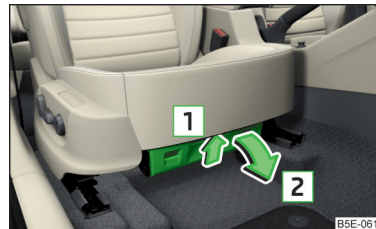

Fig. 110
- ▶ To **open**, pull the handle in direction of arrow **1** pull and open the compartment in the direction of arrow **2** » Fig. 110.